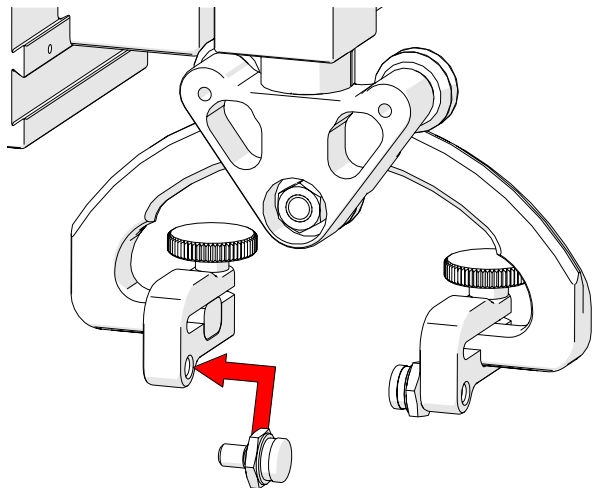

Fig. 205 - Attach pivot buttons
1. Using the supplied 3/8 in wrench (Fig. 70), install the appropriate pivot buttons to the probe holder arms (Fig. 205).